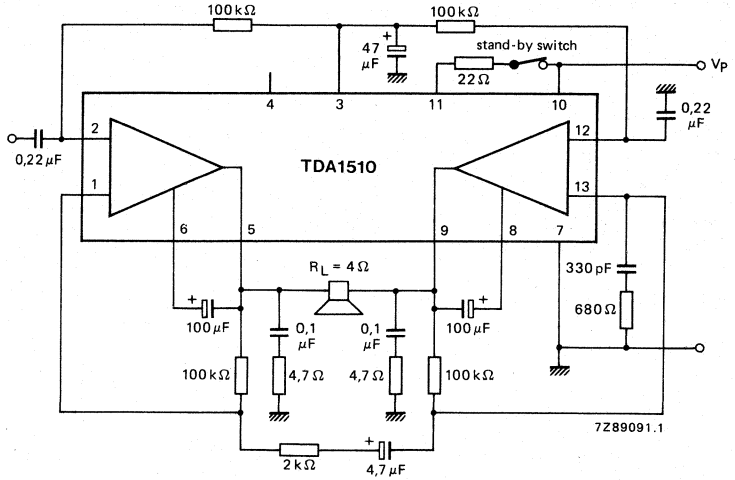

Fig. 3 Test circuit bridge tied load (BTL).
4. The input impedance in the test circuit (Fig. 3) is typ. 100 k $\Omega$ .